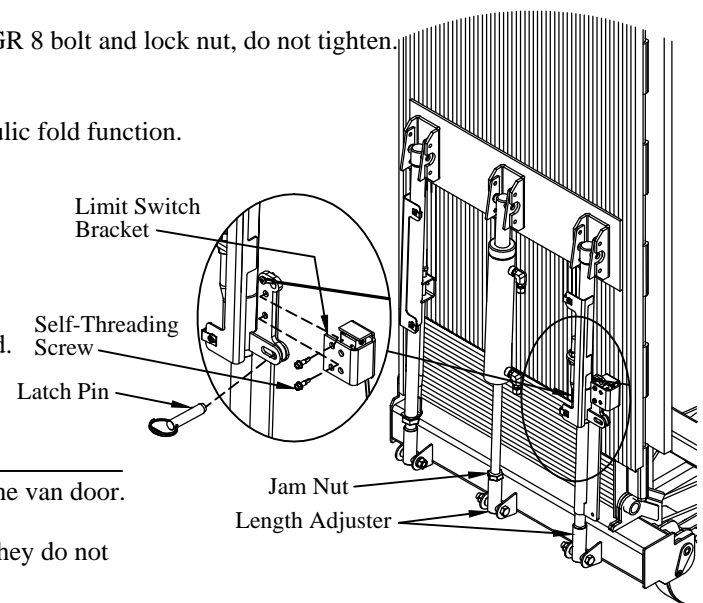

Figure 19: Platform latch and adjustment.
- 4. Install** the limit switch bracket on the passenger side support arm with two (2) #12 self-threading screws. See Figure 19 for bracket shipping location. Make sure that the limit switch is not in the pushed position.
- 3. Support** the platform to keep it from falling or hitting the van in the next steps (Figure 19).